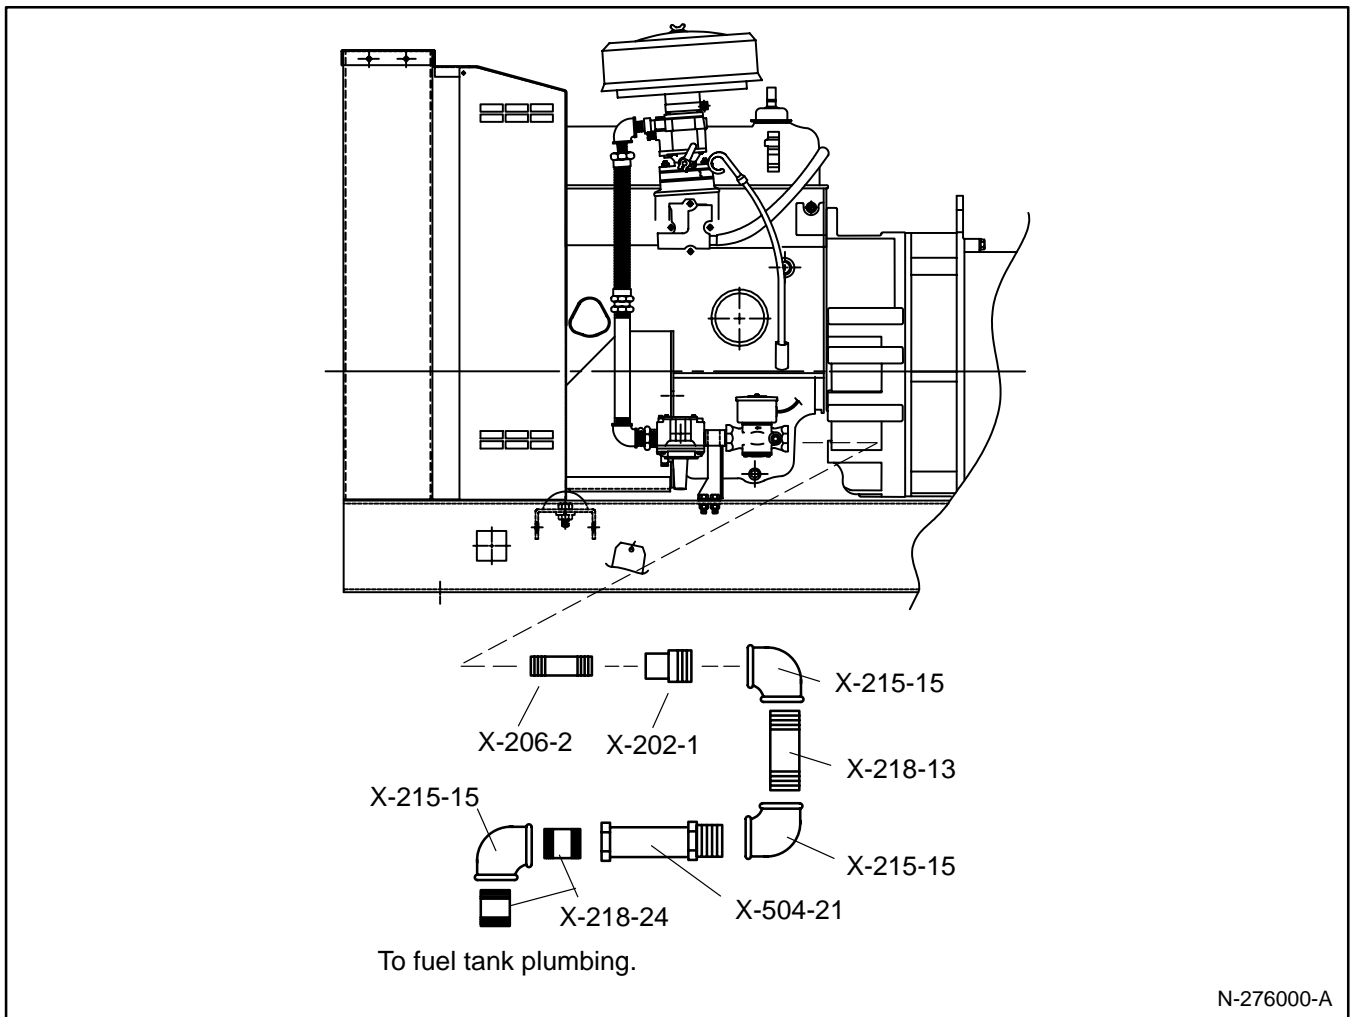

Figure 1. Flexible Fuel Line Assembly
2. Refer to Figure 1 for installation of the flexible fuel line kit. Apply pipe sealant to all threaded fittings.